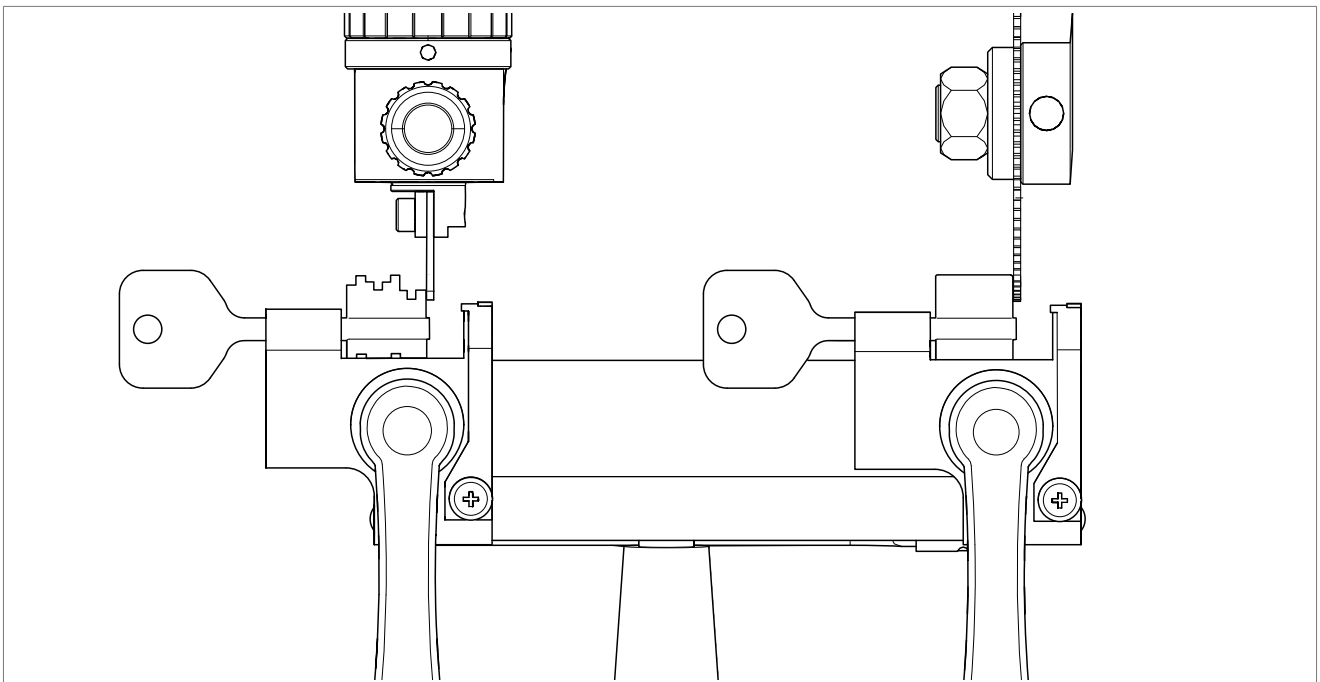

Fig. 30
- 4) Raise the carriage and place the key bits against the tracer point and cutter (Fig. 30).
- 9) When cutting is finished turn off switch (K) and remove the keys.